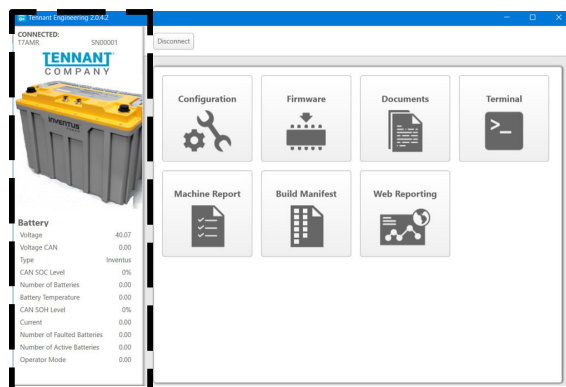

FIG. 12
6. Use the Service Diagnostics tool to access the lithium battery screen. (Fig. 12)